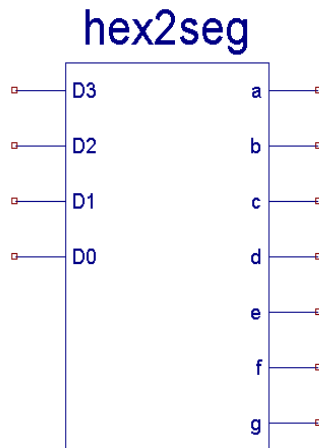

Figure 2
- 3) Finish implementing the this truth table for a hexadecimal (0-Fh) to 7-segment display decoder shown in Table 1. This circuit block (figure 2) has 4 inputs and 7 outputs. The 4 inputs D_3 D_2 D_1 D_0 can be any of the binary codes for 0-F hex. The output are the logic levels for the segments *a*, *b*, ... *g* that need to be lit to display the hex digit. HOWEVER, the 7-segment displays on the Nexys3 boards and "active low" which means $a = 0$ will turn on segment *a* and $a = 1$ will turn it off. The same is true for all segments. Applying 0 means the segment is on and 1 means it is off. For more information see Section 2.6 pg 72 of your text book and pages 18 and 19 (Basic I/O and Seven Segment Display) of the Nexys3 Reference.